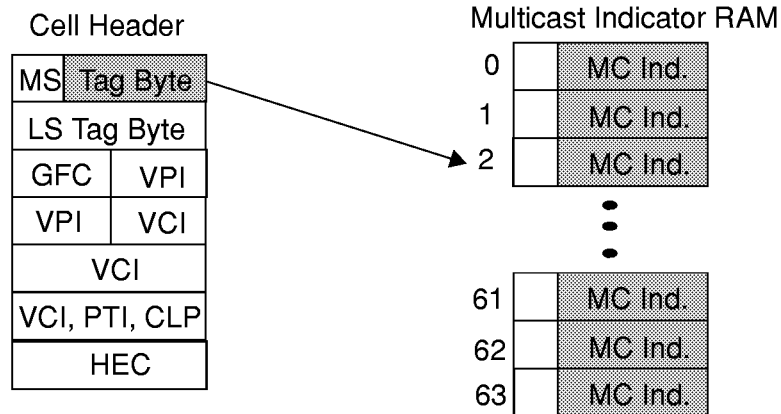

Figure 6. TX Using Inband Session Indicator
- Uses inband session indicator: TINBAND=000 selects this method. This method uses 55-byte mode with a 6-bit inband index carried by the MS tag byte that points to an internal multicast indicator, as shown in Figure 6. This method supports 64 active multicast or unicast transmit sessions simultaneously and is intended for use directly with the TranSwitch CUBIT VLSI device.